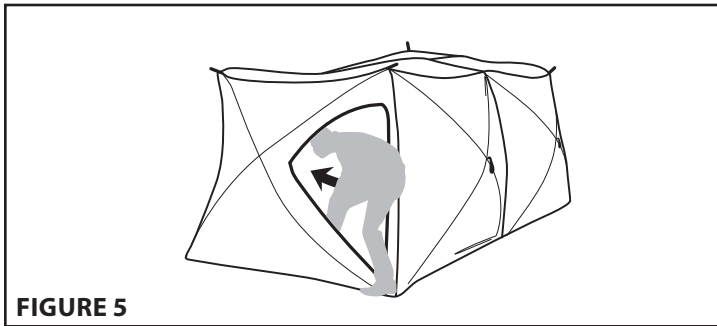

FIGURE 5
5. Your tent should now be freestanding. Locate a zippered door and walk inside the tent. Once inside of the tent, place one hand on the bottom of a roof hub and push up until the roof pops into position. [**SEE FIGURES 5 & 6**]